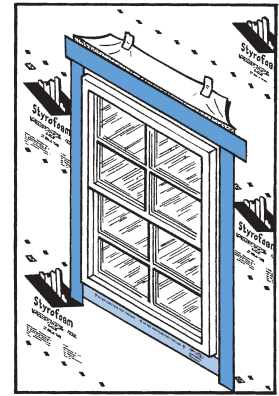

Figure 4
- c. Next, install WEATHERMATE™ Straight Flashing along header (Figure 4).